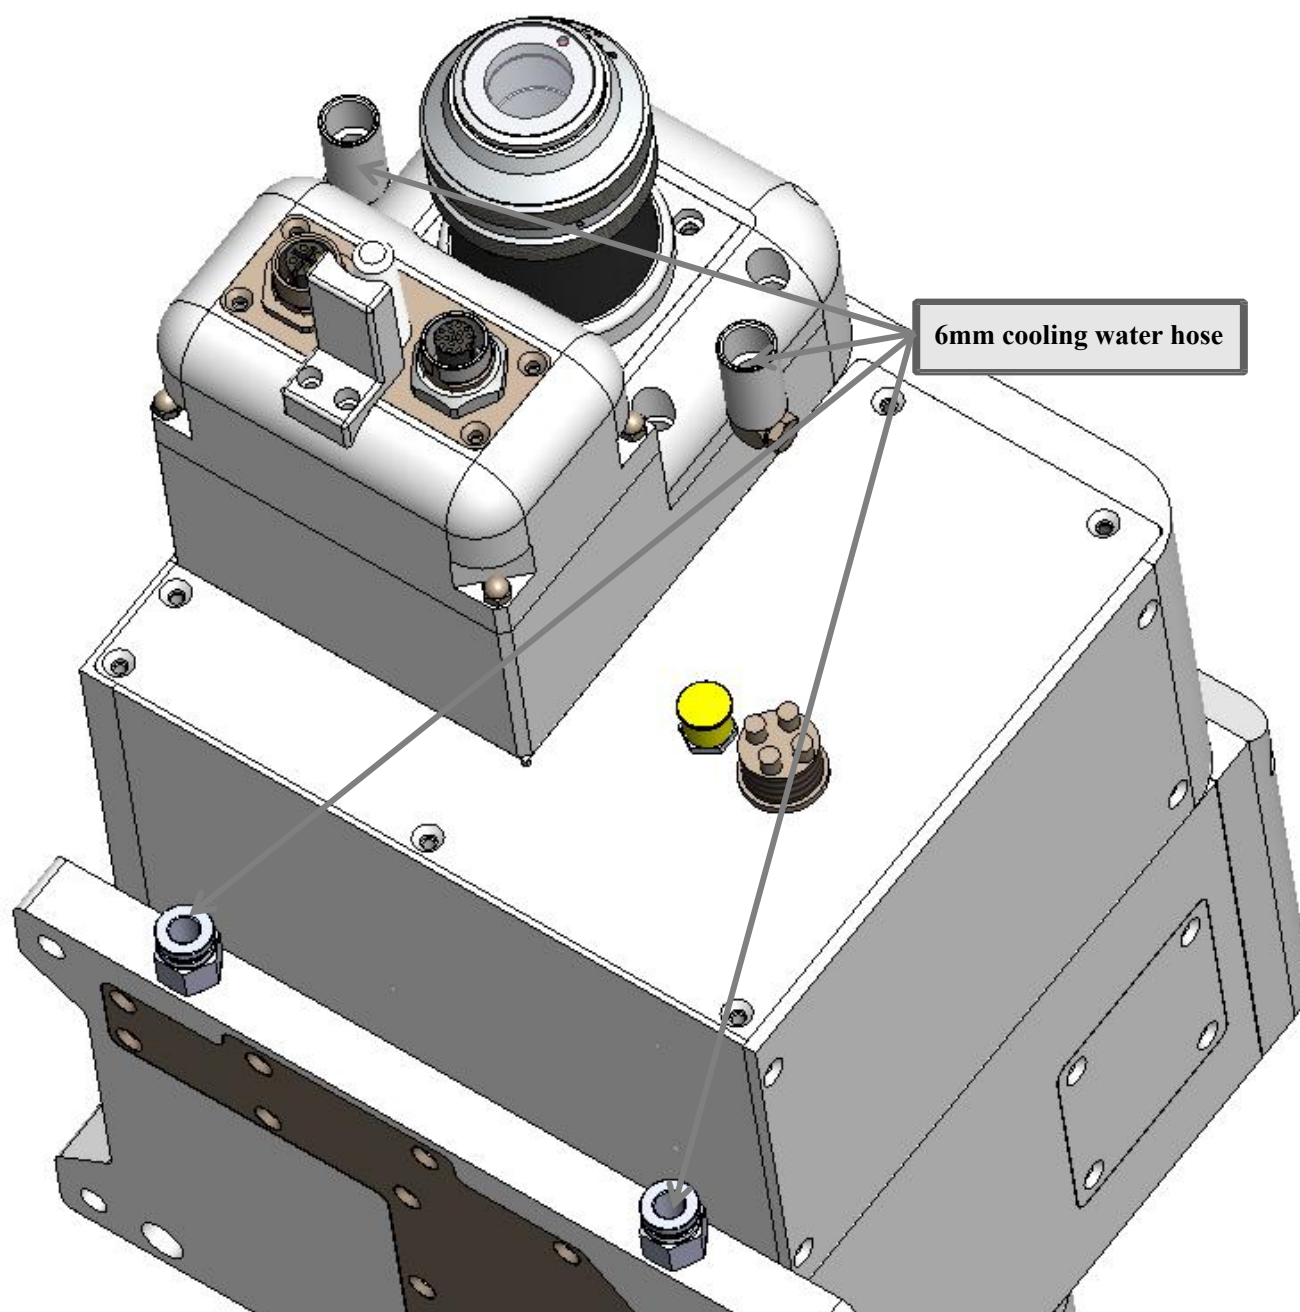

Figure 1.4
① Used for cooling QBH and cutting head, one inlet and one outlet, as shown in Figure 1.4 below: